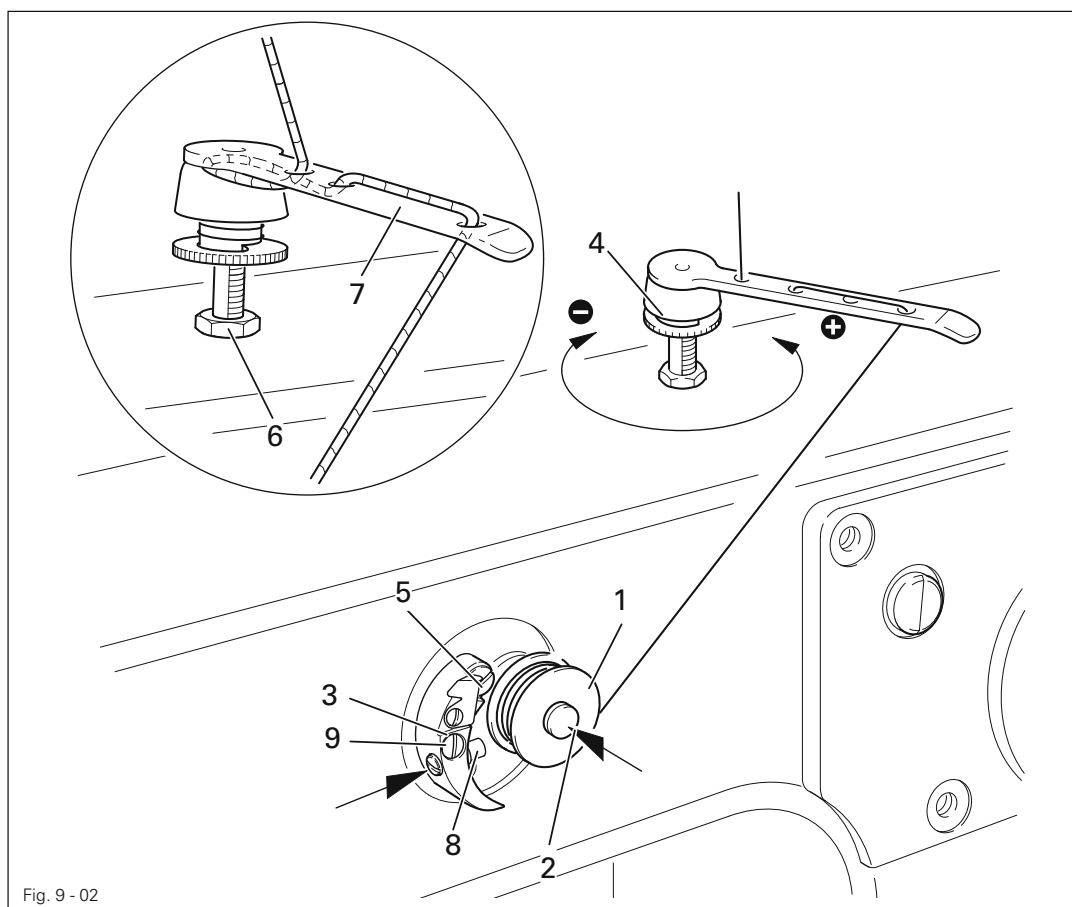

Fig. 9-02
- Thread in the thread as shown in Fig. 9-02 and wind it round the bobbin 1 a few times in an anti-clockwise direction.